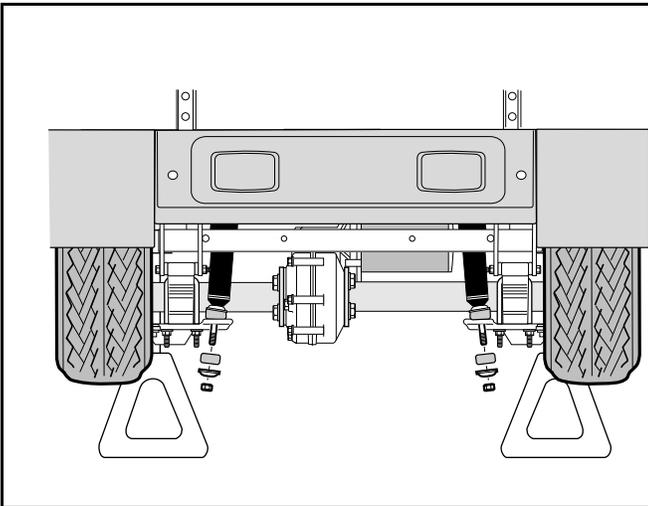

Figure 28-8 Disconnect Shocks
6. Disconnect the shock absorbers from their lower mounts (**Figure 28-8, Page 28-6**).